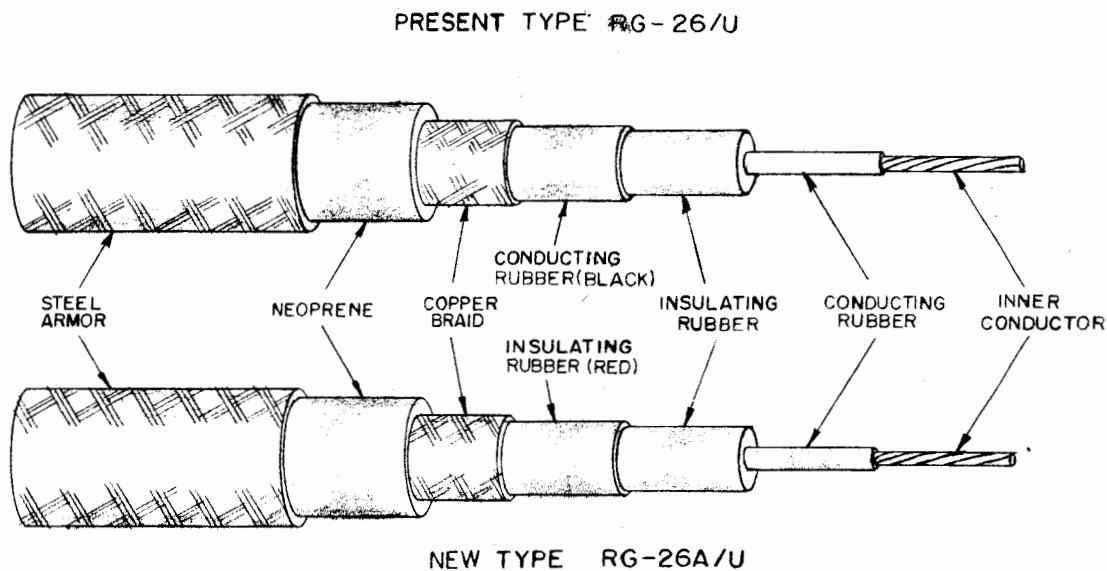

Figure 10-14. Differences Between Old and New Pulse Cables
c. CONDUCTING RUBBER.—Conducting rubber is used to prevent corona and is found on pulse cables such as RG-25/U, RG-26/U, and RG-62/U. These cables have a layer of black conducting rubber about $1/32$ inches thick which must be removed when the connector assembly is made. Pulse cables such as RG-25A/U, RG-26A/U, RG-64A/U and RG-77/U are newer types and have replaced the conducting rubber with a red insulating rubber. (See Figure 10-14.) When removing conducting rubber, be sure the removal is complete. The insulating rubber under it should be scraped clean with the edge of a knife to remove all traces of the insulating rubber. If the